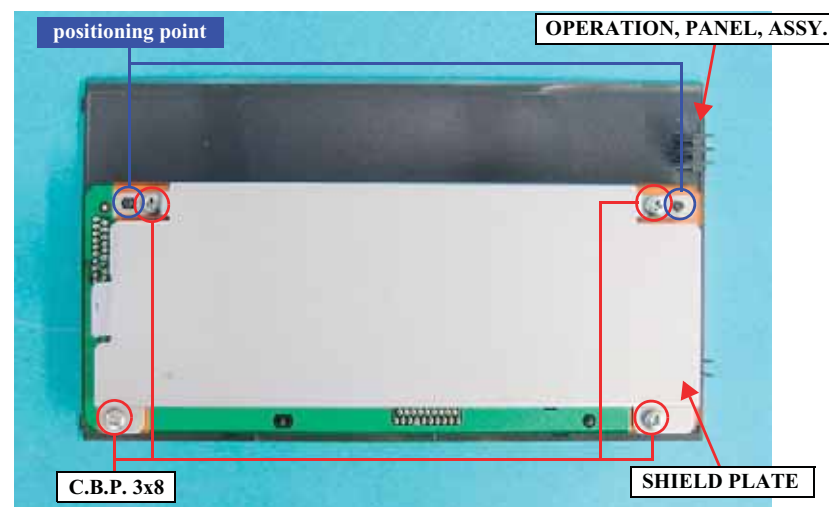

Figure 4-21. Removing the SHIELD PLATE
2. Remove the four screws that secure the SHIELD PLATE to the backside of the OPERATION, PANEL, ASSY. *See Figure 4-21.*
- When installing the SHIELD PLATE, be sure to insert its two positioning holes over the guide pins on the OPERATION BUTTON. *See Figure 4-21.*